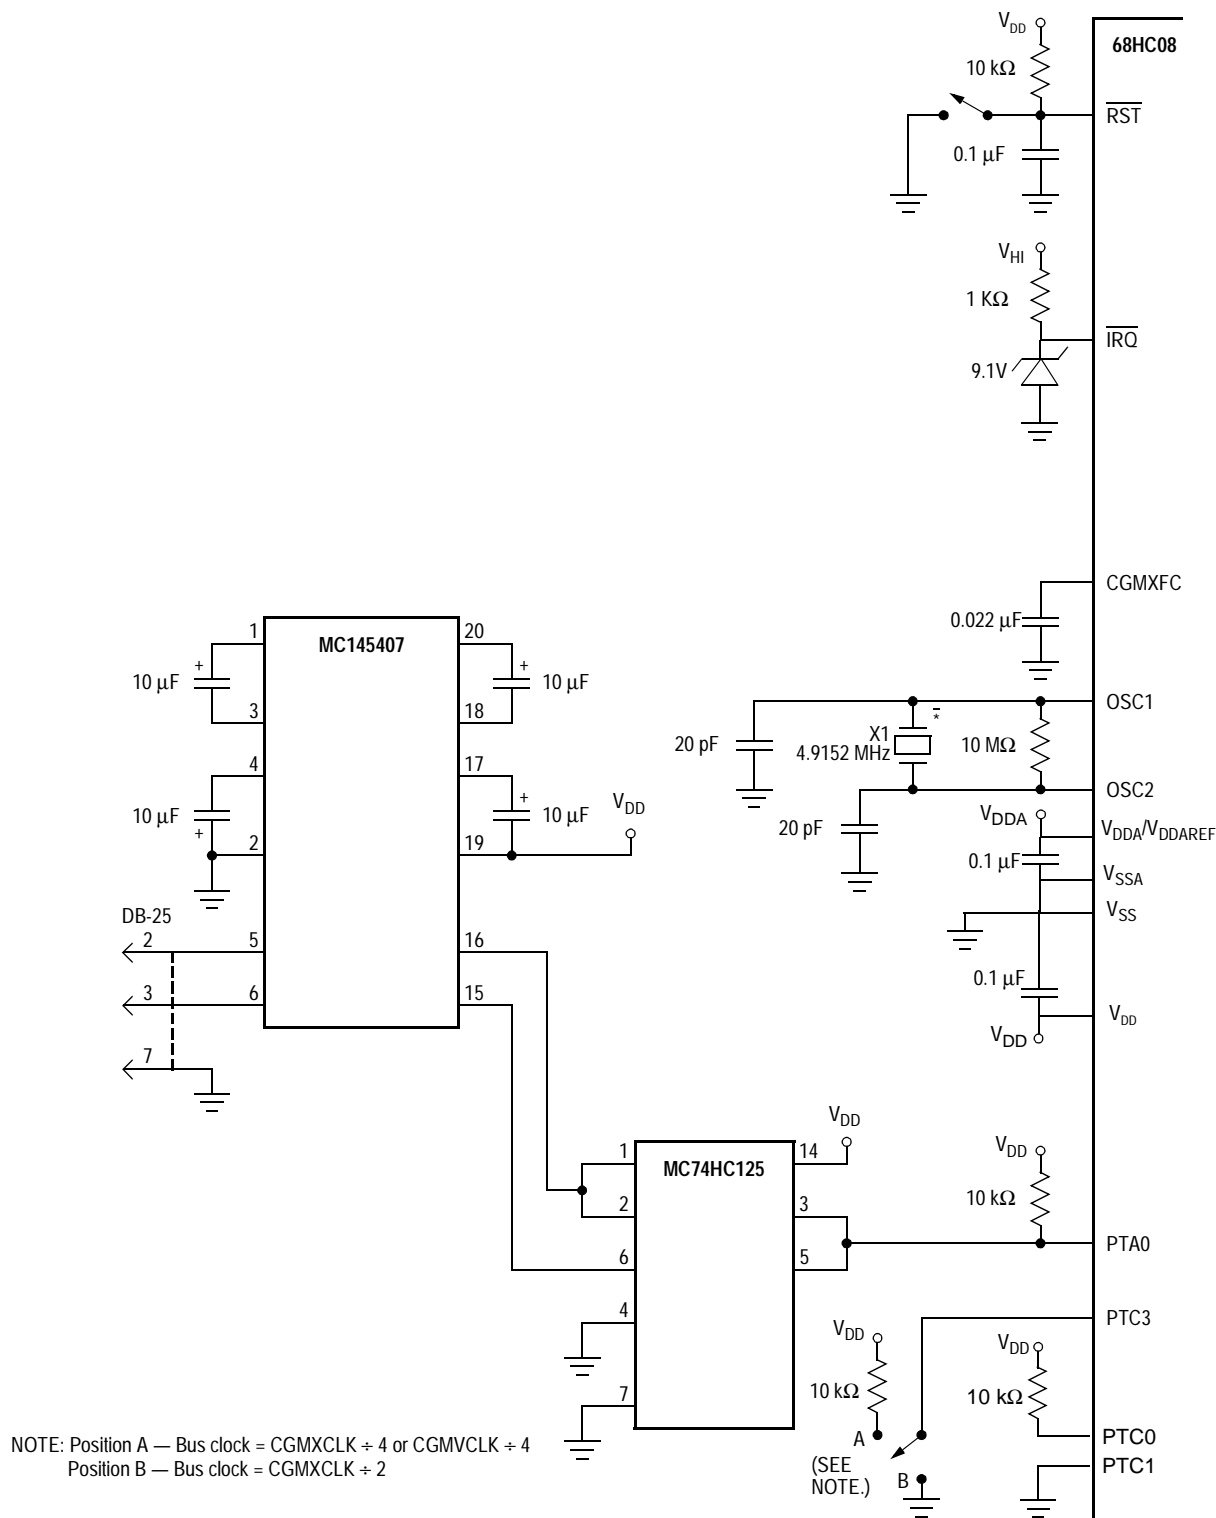

Figure 9. HC08 Monitor Mode Connection
Figure 9 . HC08 Monitor Mode Connection shows the connections required to access monitor mode on the 68HC908AZ60A and a minimal debugging circuit. For other HC08 mcus the connections may vary, please refer to the monitor ROM chapter in the device datasheet for the exact connection. However, all HC08s require the following minimum connections: -
- RESET – a bi-directional pin used by the debugger to reset the mcu. It can also be used by the debugger to detect mcu-generated resets (eg, watchdog timeouts). In Figure 9 . HC08 Monitor Mode Connection reset is controlled by a switch that the user can toggle to reset the device